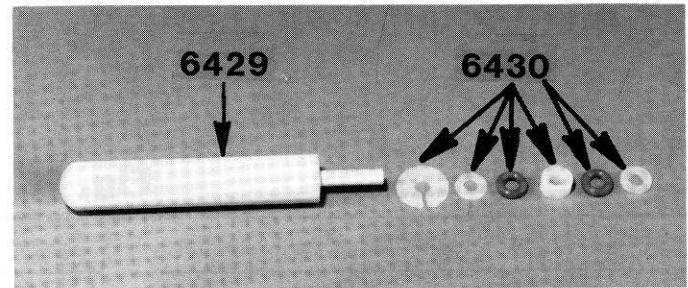

Fig. 108
□ **Fig. 108 & 109** The #6429 assembly tool (in master parts Bag) makes it quite easy to build shocks. The internal shock parts will be slipped onto the assembly tool in the following order. First, the large split washer, then the small washer, red O-ring, spacer, red O-ring, and small washer. This is exactly as the order shown in the photo.